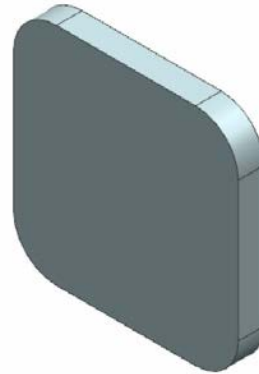

Figure 6-96 The base feature
5. Choose the **OK** button from the **Extrude** dialog box; the base feature is created, as shown in Figure 6-96.